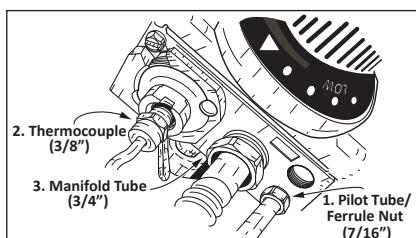

Figure 50 - Component Removal
- 3** Uninstall the actuator fitting from the gas valve using a 9/16" wrench (See Figure 50).
4 Uninstall the remaining three connections from the gas control valve/thermostat in the following order (See Figure 50).